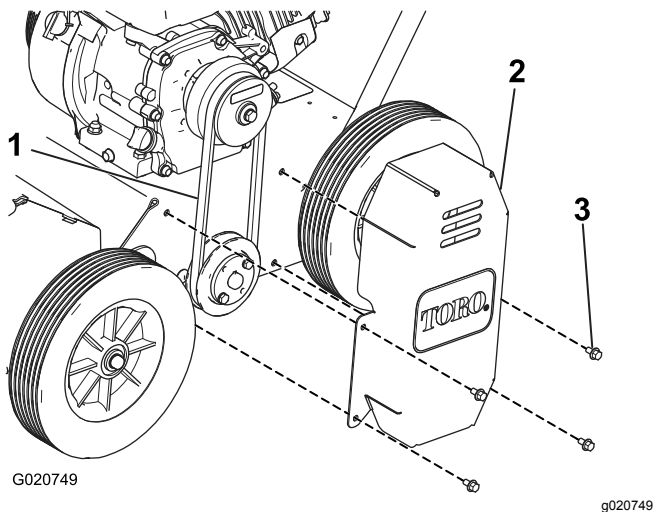

Figure 21
4. Remove the 4 bolts securing the belt cover to the left side of the machine and remove the cover (Figure 21).
5. Check the tension of the belt (Figure 21).